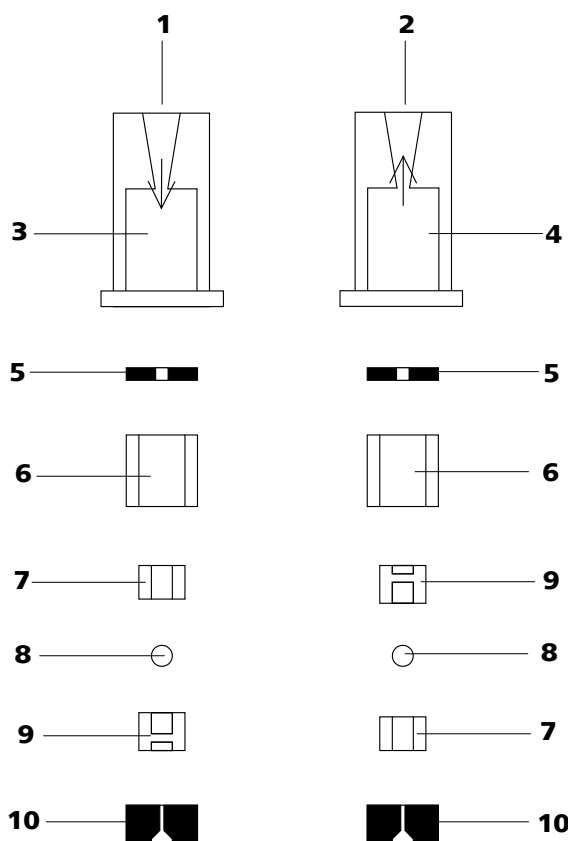

Figure 45 Components of the inlet valve and outlet valve
Reassemble valve components *according to figure 45, page 86*.
- Lay the other valve components above another in the correct sequence (*see Figure 45, page 86*).
If this is not the case, the valve has to be dismantled again and be assembled correctly (see Figure 45, page 86).